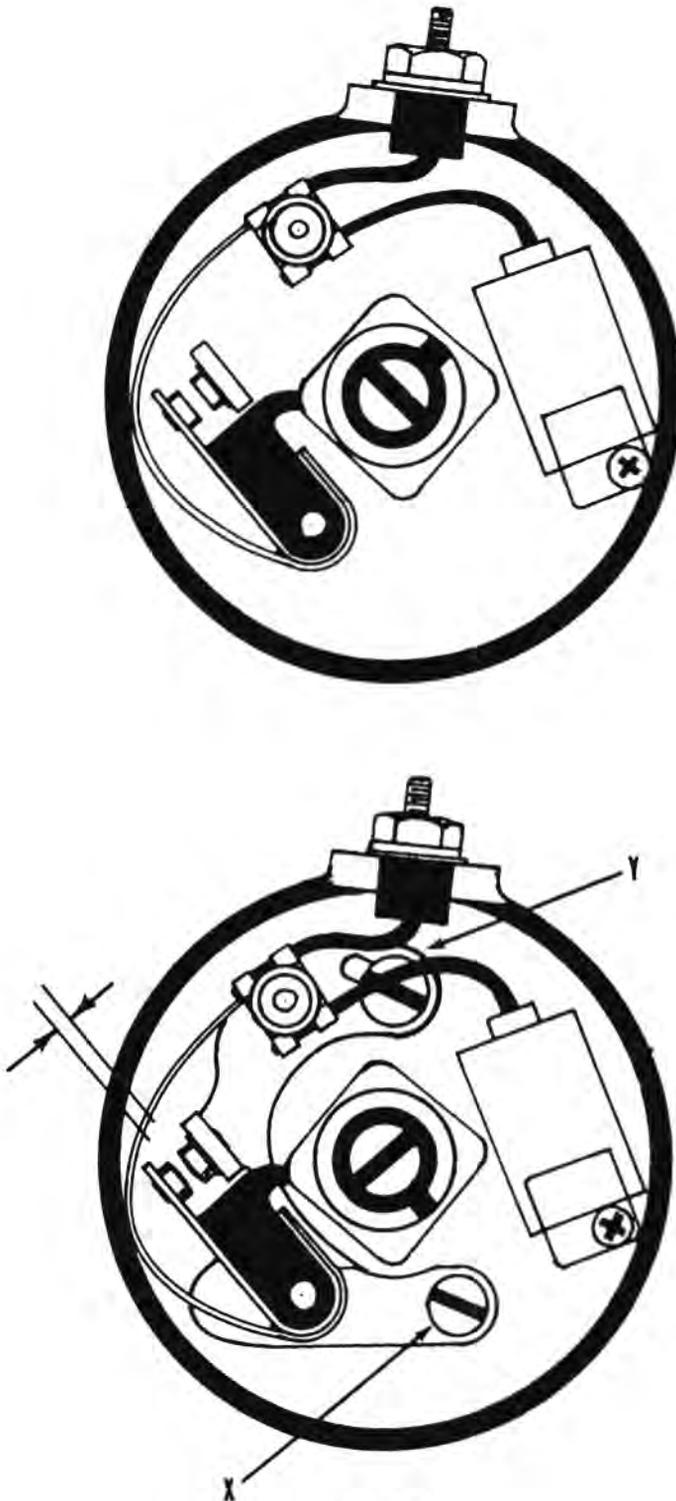

FIG. 23
6. Use the hand crank and turn the engine over until the contact breaker arm is on the high point of the cam lobe. See Figure 23.
7. With a 0.015 inch feeler gauge, measure the point gap as shown in Figure 23. This should be 0.014 inch to 0.016.
8. **Adjusting Point Gap.** Loosen the two screws "X" and "Y" in Figure 23. This loosens the fixed contact plate so that its position can be moved to adjust the gap.